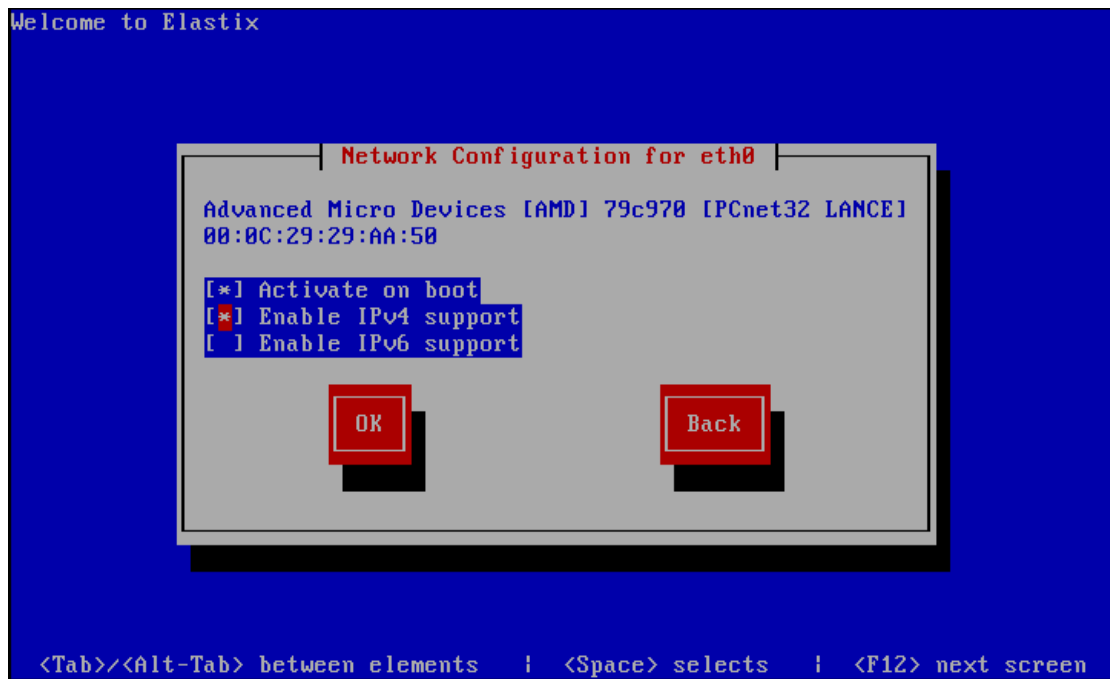

Figure 7
- Next, choose to configure IPv4 or IPv6. Here we select 'Activate on boot' and 'Enable IPv4 support', and then click 'OK' (Figure 7).